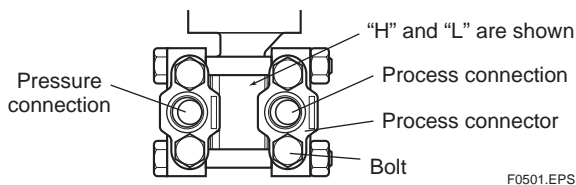

Figure 5.1.1a “H” and “L” Symbols on a Capsule Assembly
(1) Check the High and Low Pressure Connections on the Transmitter (Figure 5.1.1a)